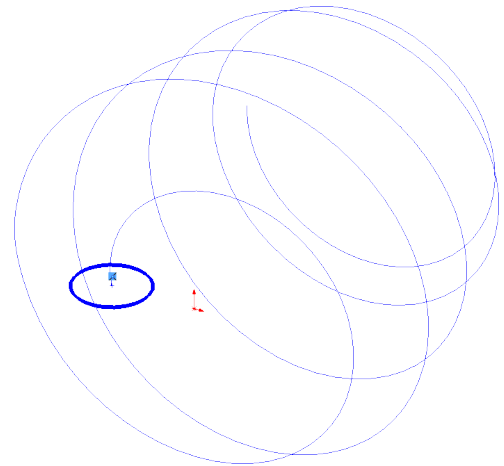

Fig. 6
Step 5. Draw circle starting at the front endpoint of helix, **Fig. 6**.
Step 6. Click Smart Dimension  (S) on the Sketch toolbar.